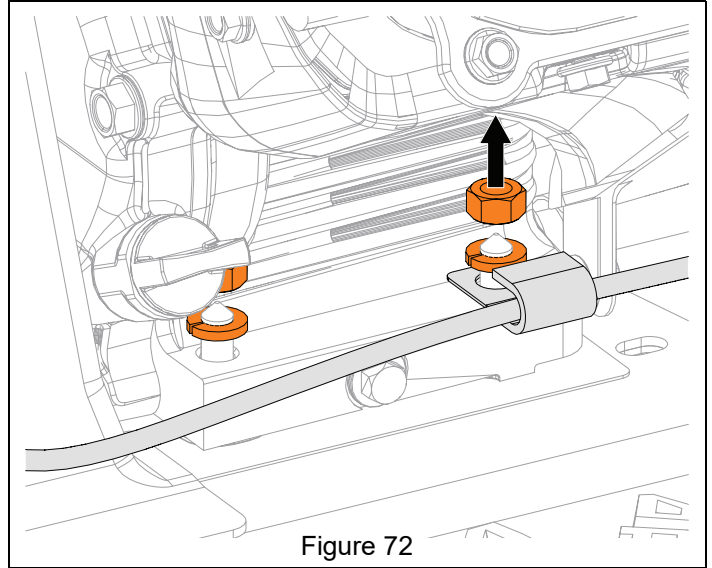

Figure 72
See Figure 72.
3. Reinstall J-clamp to left rear engine mounting position. See Figure 72.